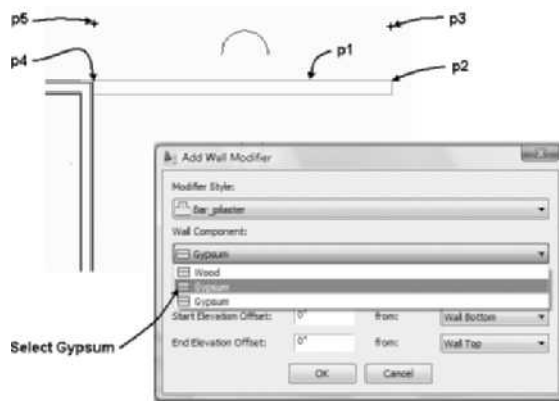

FIGURE 3.85 Location of wall modifier
12. Select the wall at p1 as shown in Figure 3.85, and choose **Add** from Plan Modifier fly-out of the **Modify** panel in the **Wall** tab. Respond to the workspace prompts as shown below and refer to Figure 3.85.
Select start point: (Select the wall at p2 using the running Endpoint object snap as shown in Figure 3.85.)
Select the side to draw the modifier: (Select a point near p3 as shown in Figure 3.85.)
(Add Wall Modifier dialog box opens; refer to Figure 3.85 to edit the Wall Modifier Style = **Bar_Pilaster**, Start Elevation = 0, End Elevation = 0, and set Wall Component = **Gypsum**. (There are two gypsum components listed; choose the top gypsum component.)
13. Retain the selection of the wall at p1 as shown in Figure 3.85 and choose Add from the Plan Modifier flyout of the Modify panel in the Wall tab. Respond to the workspace prompts as shown below.
Select start point: *(Select the wall at p4 using the running Endpoint object snap as shown in Figure 3.85.)*
Select the side to draw the modifier: *(Select a point near p5 as shown in Figure 3.85.)*
(The Add Wall Modifier dialog box opens; edit the Wall Modifier Style = Bar_Pilaster, Wall Component = Gypsum, Start Elevation = 0, End Elevation = 0 as shown in Figure 3.85. There are two gypsum components listed; choose the top gypsum component.)